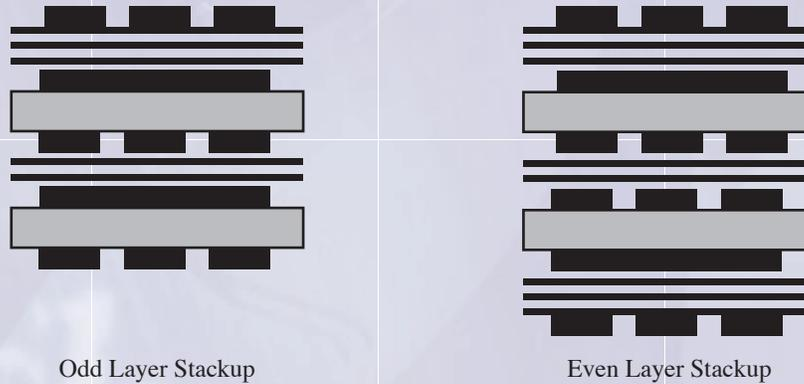

Figure 3 - Add signal layer
1. Add an additional signal layer and use it (See *Figure 3*). This method is generally applied to boards with an even number of planes and an odd number of signals. The additional layer does not add to the cost of the board, and it can improve delivery and quality.